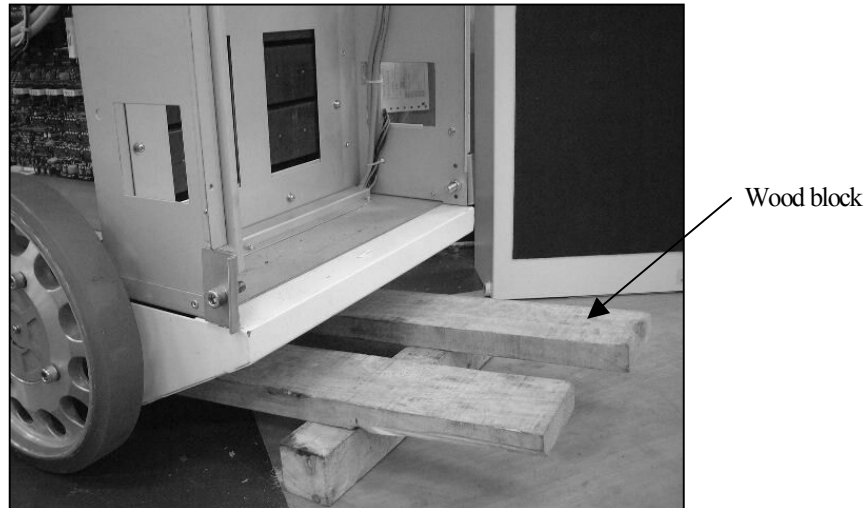

Fig. 6-57
11. As shown in Fig. 6-57, lift the main body by using wood blocks, remove the bolts that have been loosened in above step 10, and detach the wheel.